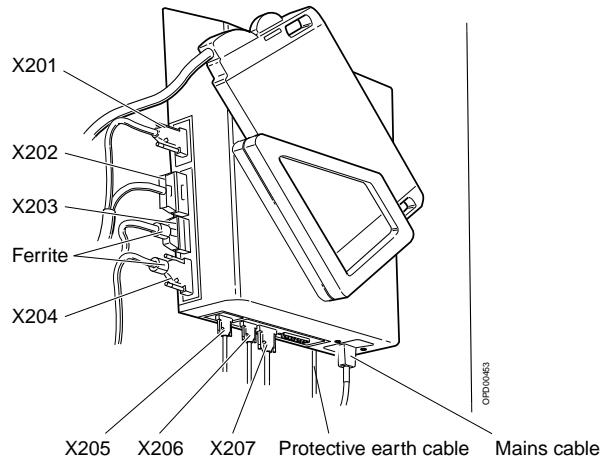

Fig. 12 Biopsy controller
1. Connect workstation cable marked X203 to the biopsy controller connector X203, see Fig. 12, and the other end (X101) of the cable to the workstation connector (2B/Fig. 26).
2. Attach ferrite on the cable on the biopsy controller side, see Fig. 12.
3. Connect the workstation cable marked X204 to the biopsy controller connector X204 in Fig. 12 and the other end of the cable to the workstation connector A (8/Fig. 17) and B (2A/Fig. 17).
4. Attach ferrite on the cable on the biopsy controller side, see Fig. 12.